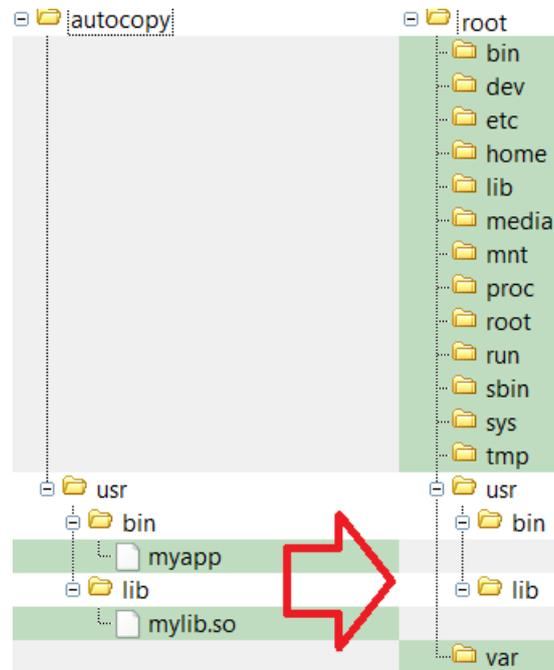

Figure 2: Automatic transfer process from storage medium (left hand) to the targets root file system (right hand) after plugging the storage
► Figure 2] illustrates what happens in background. The files are properly transferred to the target.